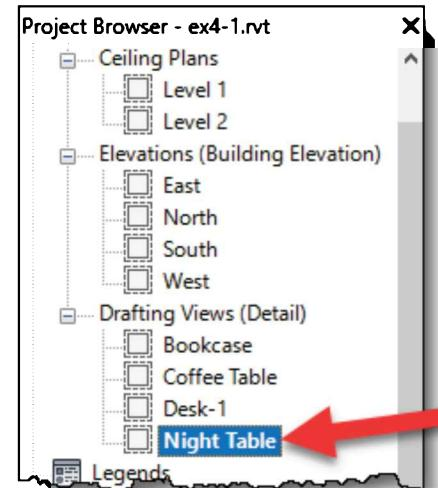

FIGURE 4-1.5
14. Type **Night Table** and then press **Enter** (Figure 4-1.5).